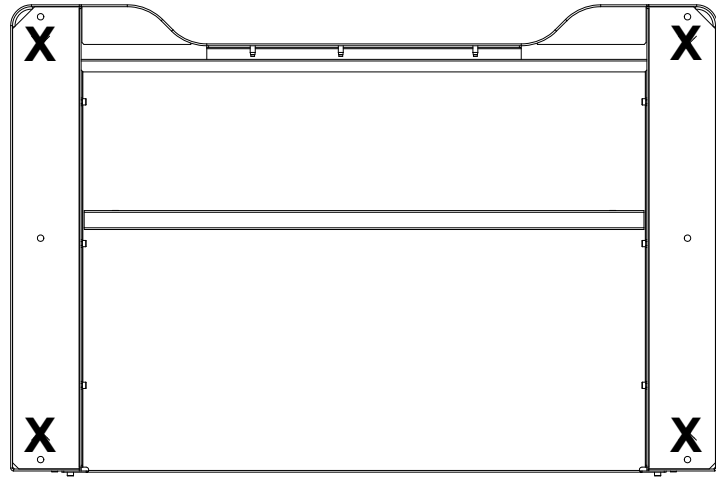

Figure 19. Underside of frame showing location of frame feet
- Locate any frame feet that may have been removed in order to bolt the frame to the skid and reinstall them in the locations shown in Figure 19 on page 69.